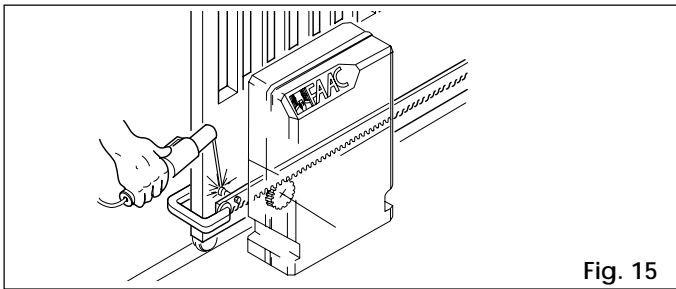

Fig. 15
- 3) Rest the first rack element level on the pinion and weld the threaded pawl onto the gate as shown in Fig. 15.